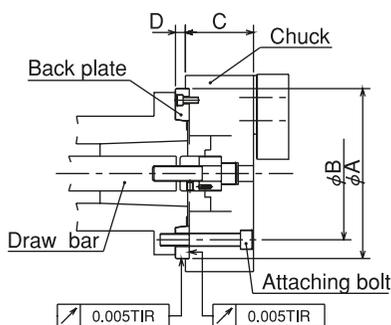

Fig.23
- Fig.23 shows the case of the JIS short taper standard.